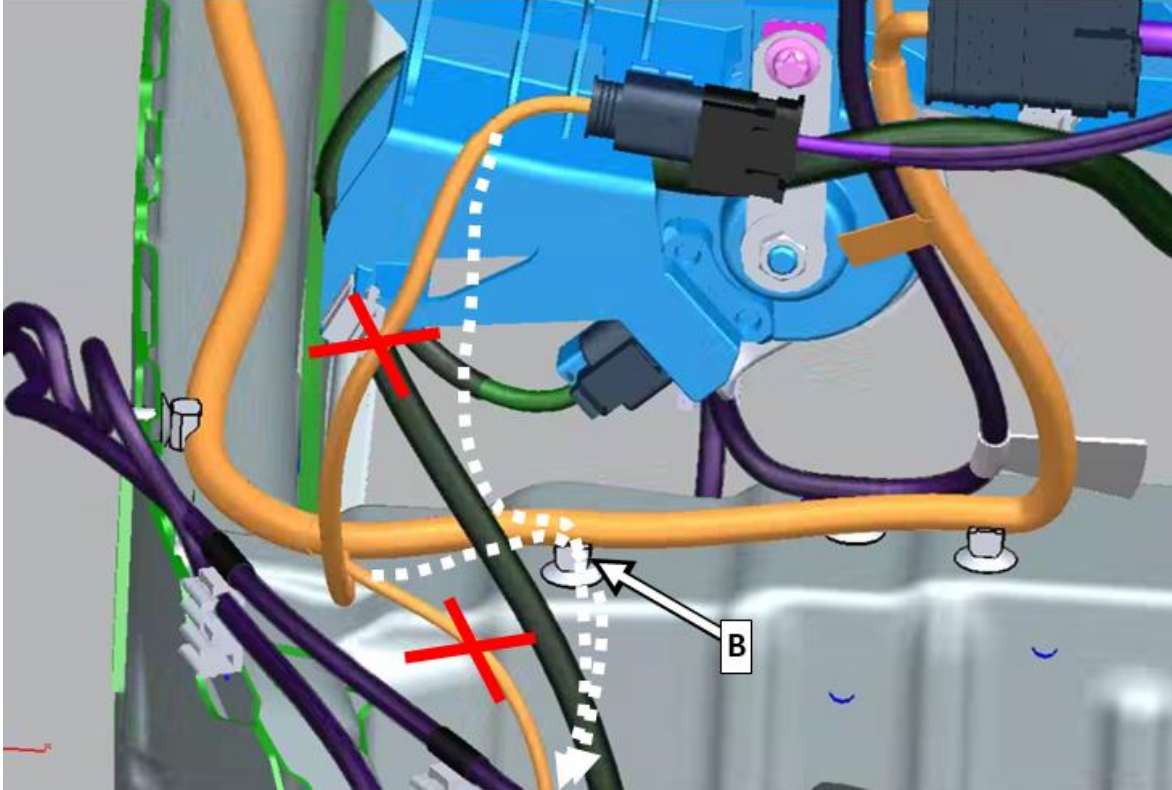

Figure 2
2. Remove bracket (A, figure 2) including cable tie from wiring harness and remove cable tie on bracket (B, figure 2) on upper left longitudinal member.
i Bracket (A, figure 2) will no longer be installed!